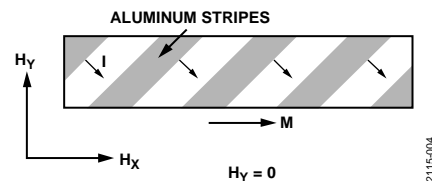

Figure 4. Barber Pole Effect in a Permalloy Strip
A common method used to improve both the linearity and polar insensitivity of the permalloy strip is to add aluminum stripes angled at 45° to the strip axis called barber poles, as shown in Figure 4. Any current flowing between barber poles takes the shortest path—the perpendicular path, and the angle between the current flow vector (I) and magnetization vector (M) shifts by 45°.